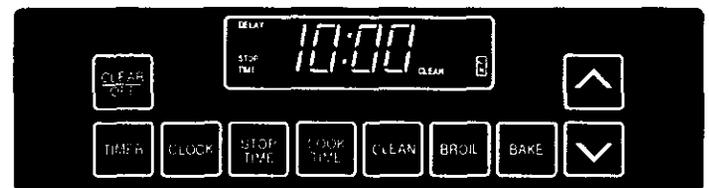

Fig. 4
4. Set the time of day when you want the clean cycle to end. See Fig. 4.